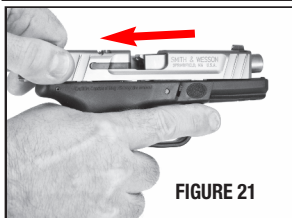

FIGURE 21
- With the muzzle still pointing in a safe direction, and with your finger off the trigger and outside the trigger guard, grasp the serrated sides of the slide from the rear with the thumb and fingers (FIGURE 21) while holding the firearm in an upright position, and briskly draw the slide fully rearward in order to extract any cartridge from the barrel chamber and clear it from the pistol.